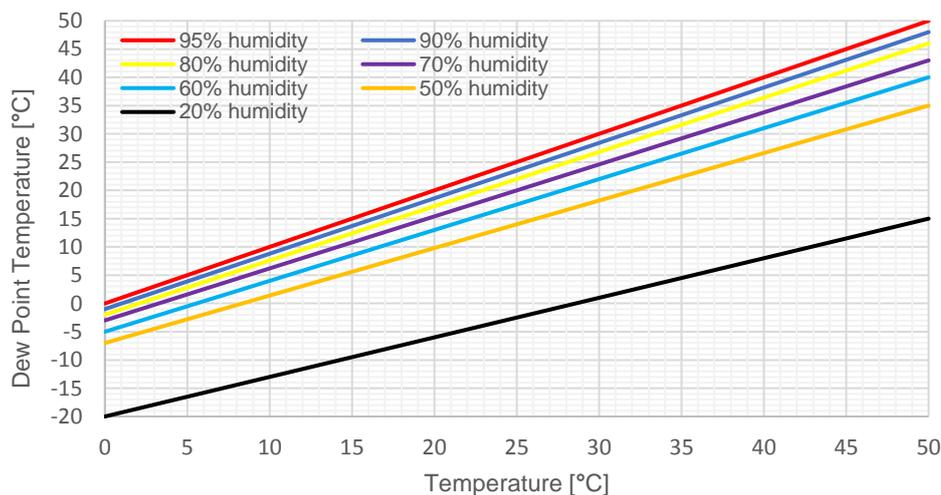

Figure 7. Graph of dew point temperatures influenced by relative humidity.
- Find the corresponding curve on fig. 7 that matches the humidity of the room in which the device is located.